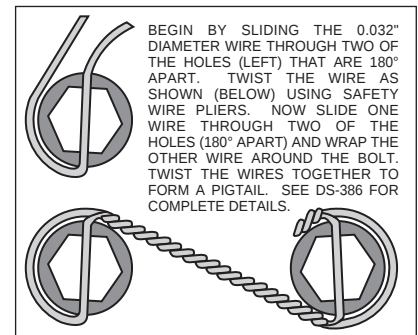

Figure 3. Safety Wire Diagram
- To accommodate several model years, multiple holes have been drilled in the caliper mounting bracket (1). Rotate the bracket until the two correct holes that align with the mounting holes in the face of the spindle are located. Apply red *Loctite*® 271 to bolt threads (2) before assembly of the caliper mounting bracket (1). Mount bracket (1) to dust face plate of spindle using bolts (2). Torque bolts (2) to 22 ft-lb. **NOTE:** Be sure the heads of the caliper bracket (1) insert nuts are facing outward toward the wheel.
- Install wheel studs (3) into the hub (4). Torque to 77 ft-lb. **NOTE:** There are two five lug patterns in the hub (5 x 4.50 and 5 x 4.75). Make sure of the correct hole pattern for the correct wheel application before installing studs into hub.
- Pack the large inner bearing cone (5) with high temperature disc brake bearing grease (available from your local auto parts store) and install into the backside of the hub (4).
- Install the grease seal (6) by pressing into the backside of the hub (4).
- Attach rotor adapter plate (7) to rotor (8) using bolts (9). Apply red *Loctite*® 271 to the threads and torque bolts (9) to 25 ft-lb. For an added measure of security, the bolts may be safety wired using standard 0.032 inch diameter stainless steel safety wire as shown in Figure 3. Please refer to Wilwood's data sheet DS-386 (available at www.wilwood.com/Pdf/DataSheets/ds386.pdf) for complete safety wire installation instructions. **NOTE:** The large inside diameter side of the rotor (8) faces toward the rotor adapter plate (7) with the dished side of the rotor adapter plate (7) facing away from the rotor (8).